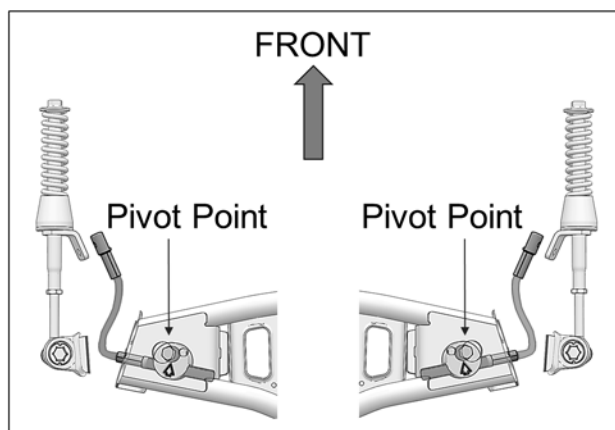

Fig. 34
17. Make sure aluminum disk pivot point is installed in front of steering limiter cable. See Fig. 34